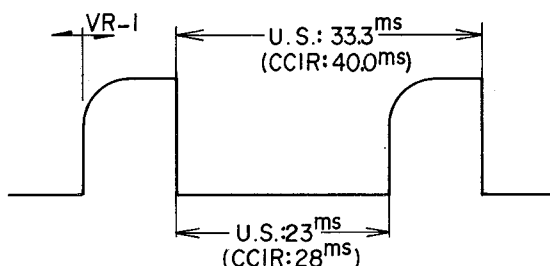

Fig. 4
- (1) Connect an Oscilloscope to Video In Terminal of Servo P.C. Board (VC-5013) and confirm that the Video Signal Amplitude is more than 1.2 Vp-p. (If amplitude is less than 1.2 Vp-p, check video input signal).
- (2) Connect Oscilloscope to Test Point TP-1. Adjust VR-1 (50 k Ω B) to obtain waveform as shown in Fig. 4.